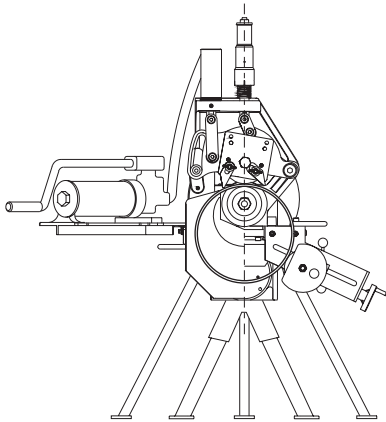

FIGURE 3 - "CORRECT"
7. Using the hand wheel, advance the stabilizer roller inward until the roller lightly contacts the pipe. Tighten the stabilizer locking handle. Refer to figures 3 and 4 on the next page for proper positioning.